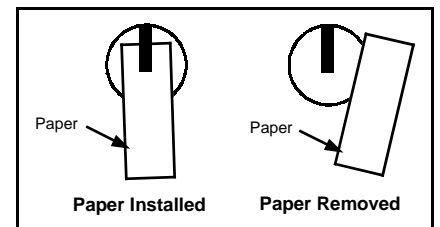

Fig. 2: Remove and Restore Memory Battery.
2. **Insert paper insulator** under the clip of the Memory Battery (see Figure 2).
5. **Restore power.** First restore Memory Battery by removing paper insulator (see Figure 2). Next reconnect the 6-pin Molex connector marked "Power In". The "OK" LED should blink (at a rate of approximately once every second).